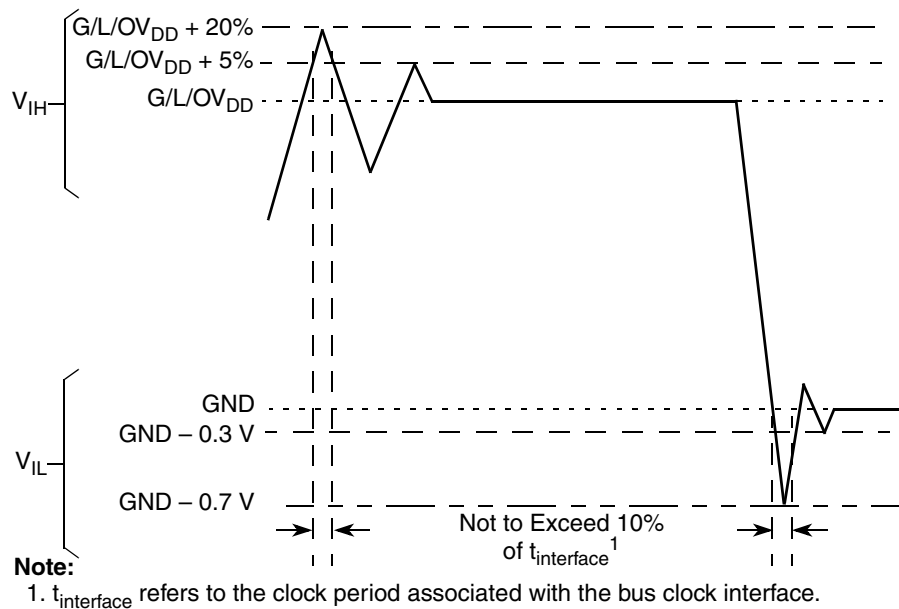

Figure 2. Overshoot/Undershoot Voltage for GV_{DD}/OV_{DD}/LV_{DD}
- ⁵ (M,L,O) V_{IN} and MV_{REF} may overshoot/undershoot to a voltage and for a maximum duration as shown in Figure 2.
Figure 2 shows the undershoot and overshoot voltages at the interfaces of the MPC8343EA.